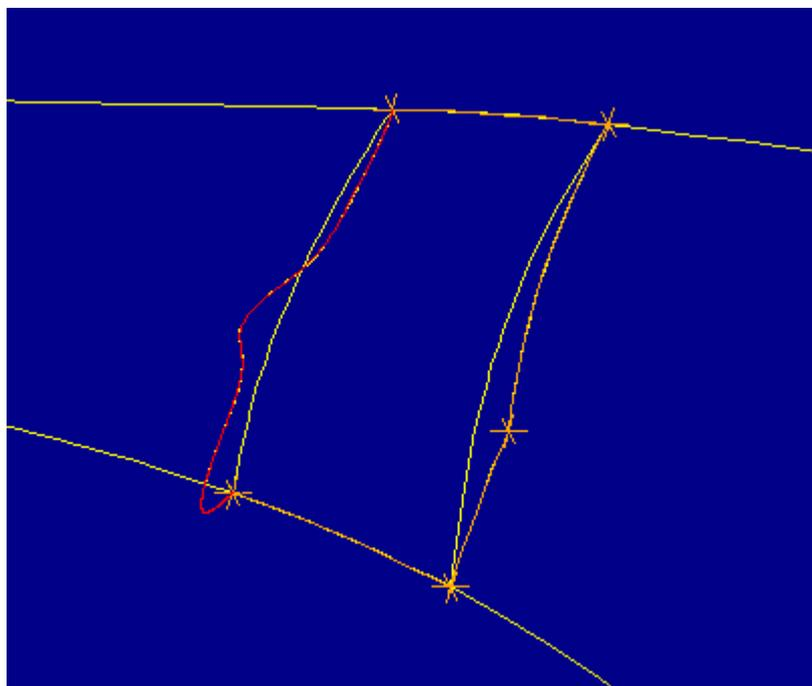
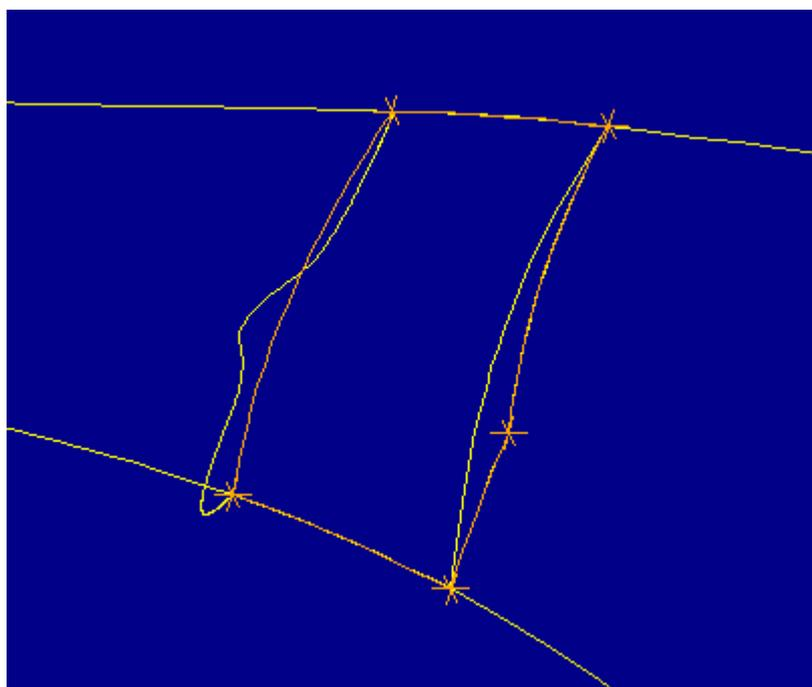

Figure 34
Figure 35
23. In the MODIFY EDGS menu select **Straighten**. Select the two orange vertices at either end of the left edge and in the CHOOSE menu **Accept** the edge highlighted red in Figure 34. Figure 35 shows the resulting edge. Notice that the new edge does not appear to be straight in this view. The edge does, however, connect the two selected vertices with a straight segment *that conforms to the shape of the surface*.